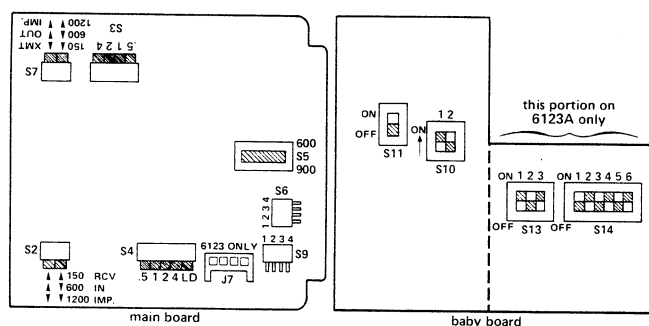

figure 7. 6123 and 6123A option switch locations
3.06 All options on the 6123 and 6123A modules are selected via slide or DIP switches whose locations on the module's printed circuit boards are shown in figure 7. Table 7 summarizes these options and their switch settings, which are explained in detail below. Each module should be completely optioned and its optioning verified before alignment is attempted.